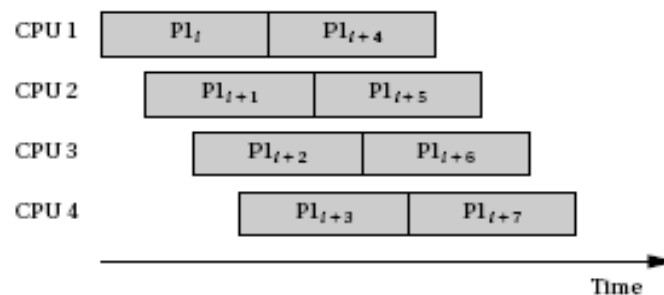

Figure 4.6 A sequence of processes with a high initiation rate.
- The most common case for periodic processes is for the initiation interval to be equal to the period. However, pipelined execution of processes allows the initiation interval to be less than the period. Figure 4.6 illustrates process execution in a system with four CPUs.
- The order of execution of processes may be constrained when the processes pass data between each other. Figure 4.6 shows a set of processes with data dependencies among them. Before a process can become ready, all the processes on which it depends must complete and send their data to it.